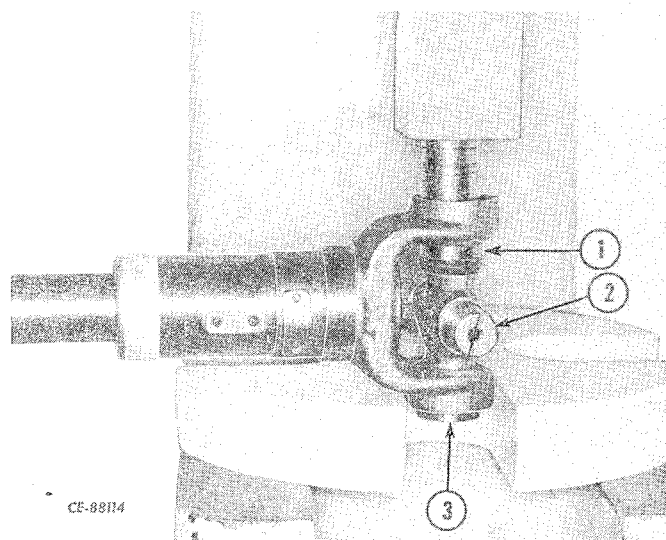

Figure 5-5
Place drive shaft in a shop press and press against the bearing (1, Fig. 5-5) and spider (2) to force the opposite bearing (3) out of the universal yoke.